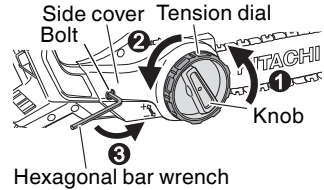

Fig. 3
1. Removing the side cover (Fig. 3)
- ① Rotate the knob once to loosen it.
- ② Rotate the tension dial half a turn to loosen it.
- ③ Using the supplied hexagonal bar wrench, loosen the bolt until there is no resistance.
- ④ Turn the knob and remove the side cover.